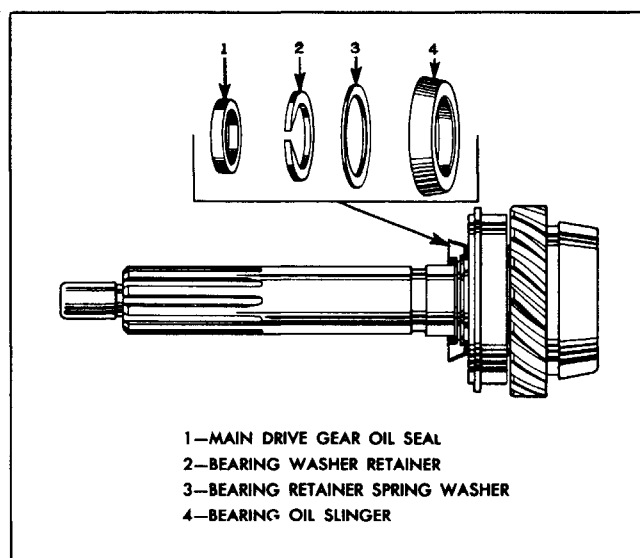

Fig. 7-36 Oil Seal and Oil Slinger on Main Drive Gear
b. Install oil slinger, spring washer and snap ring on main drive gear shaft against ball bearing as shown in Fig. 7-36. Spring washer should be installed with concave side toward oil slinger and bearing. Felt oil seal on main drive gear shaft will be installed at time transmission is installed in car.
2. Place new transmission main drive gear felt oil seal over end of main drive gear. Apply oil to seal and position seal against shoulder ahead of oil slinger snap ring (Fig. 7-36).